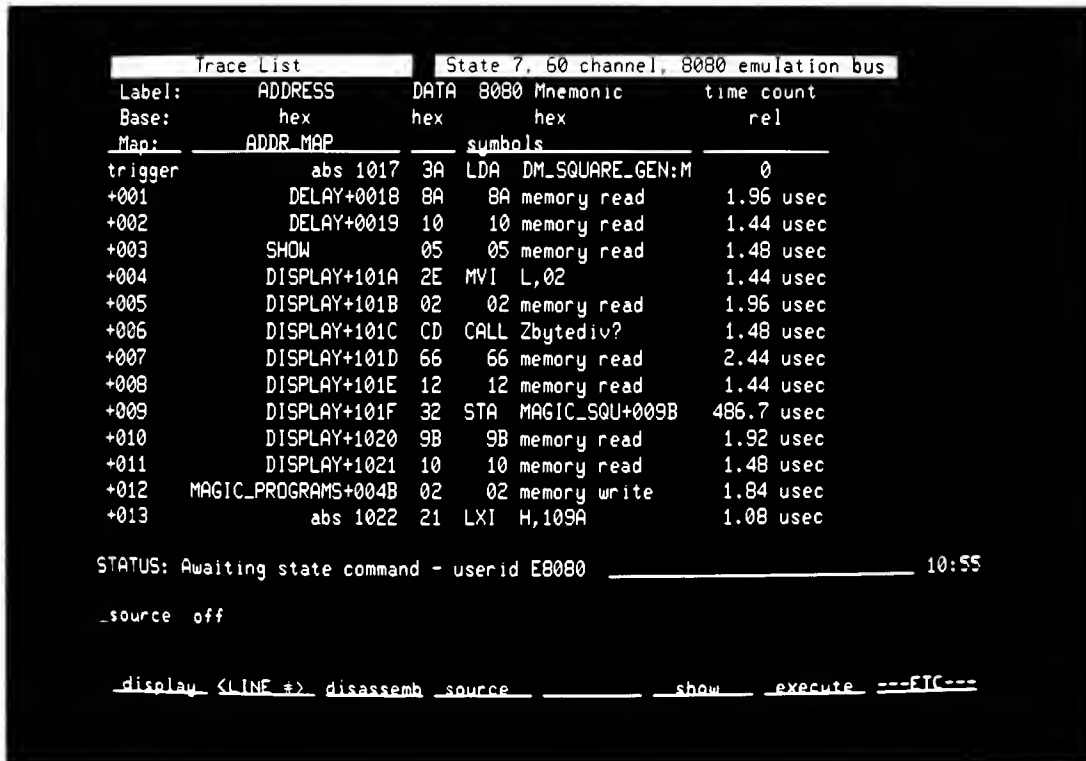

Figure 7-2. Example Display Using Map Symbols
- b. If the analyzer is formatting a list display, it can show the content of memory using symbols from a map in place of numbers, if available. Figure 7-2 is an example showing the way that the analyzer will use your maps to present a list display. (This figure assumes ADDR_MAP was assigned as the default map for ADDRESS, or you entered the following command:
Figure 7-2 shows the ADDRESS and DATA labels which stand for sets of probe leads. Under the ADDRESS label are both numbers and symbols. The symbols are defined on the ADDR_MAP. No map was assigned as the default map for the DATA label so only absolute values are shown.
Figure 7-2 also shows a column titled 8085 Mnemonic. The entries under this column are obtained from the resident disassembler. Where applicable, these values can also be shown relative to a symbol map.